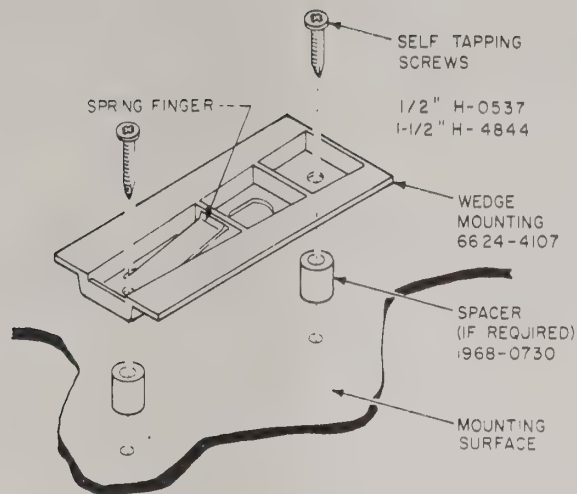

Figure 2-3. Flat Mounting
2.04 When the pedestal mounting (paragraph 2.03) is not practical, the wedge mounting (figures 2-3 and 2-4) may be installed on a flat mounting surface by using the following procedure:
- (a) Position wedge plate (figure 2-3) as required and secure with four 6-32 screws supplied (part No. H-3047).
- (b) Slide cradle/wedge plate assembly onto wedge mounting (5, figure 2-2) until spring finger (figure 2-3) engages slot in wedge plate.